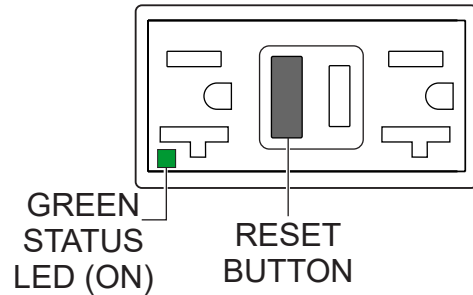

Figure 70. GFCI Receptacle (ON/Restore)
5. Press the **RESET** button (Figure 70) to restore power to the GFCI receptacle and verify that the status LED is **ON (GREEN)**.